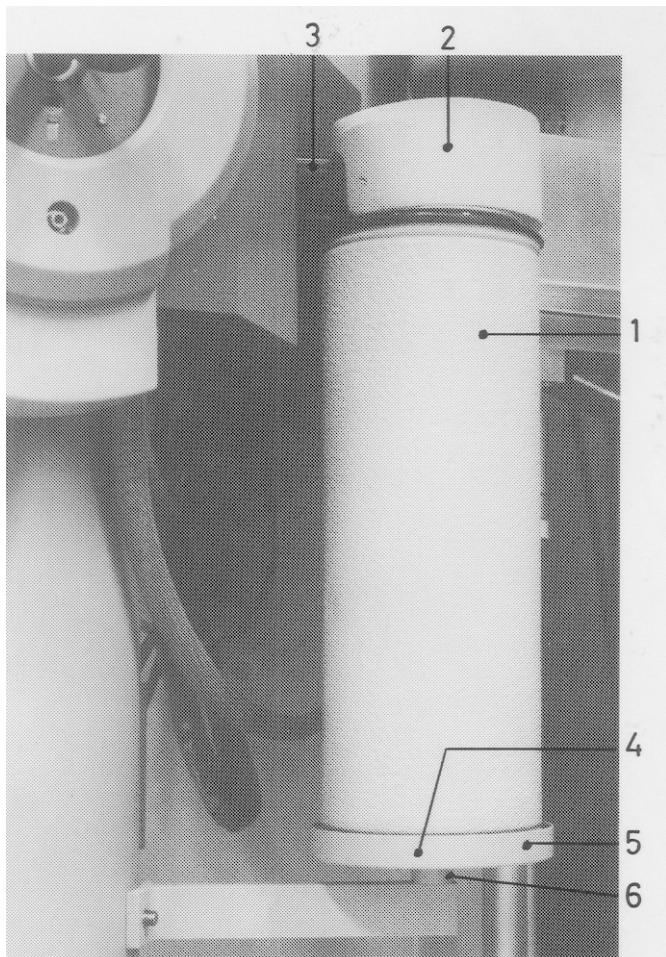

Fig. 4.15, Cooling device
To use the Cooling Device, first remove the Dewar vessel (1, Fig. 4.15). Fill it with liquid nitrogen and replace.
The effective use of the Cooling Device (Fig. 4.15) depends on careful adjustment to ensure that vibrations caused by the liquid nitrogen are not transmitted to the column of the microscope. At the same time the evaporation should be kept to a minimum to prevent the formation of ice which will create a vibration contact. This means that the Dewar (1) should not come into direct contact with either the copper wires, the conductor (3) or the insulating cap (2) while maintaining the smallest possible space through which evaporation can occur. Should this prove to be unobtainable for any reason (e.g. exchange of Dewar), then the height of the support table (4) can be adjusted by removing the screw securing it to the drip tray (5) and adding or subtracting spacing washers (6).